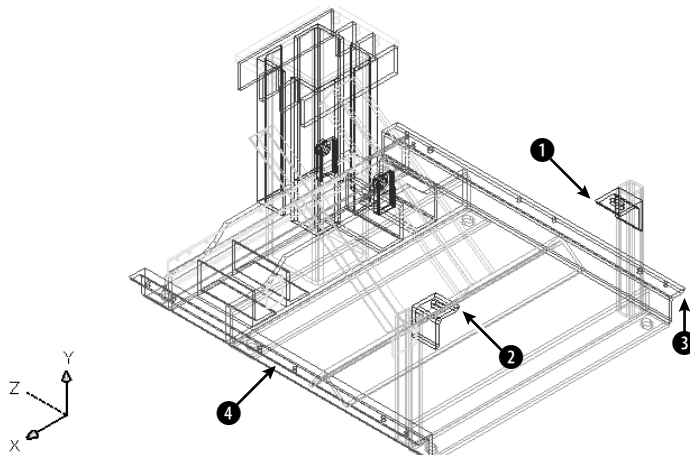

**Figure 28-6:** The base assembly frame.
2. Save the file as `ab28-01.dwg` in your AutoCAD Bible folder. This is a 3D drawing of a base assembly frame for an industrial washer, shown in Figure 28-6.
4. Choose **Insert** ⇨ **Hyperlink**. At the **Select objects:** prompt, pick ① and ② in Figure 28-6. The **Insert Hyperlink** dialog box opens.
6. Repeat the **HYPERLINK** command. This time, attach ③ and ④ in Figure 28-6 to `ab28-a2.dwg` in your AutoCAD Bible folder. Click **OK** to close the dialog box.
7. Ctrl-click the hyperlink at ①. The `ab28-a1.dwg` file should open. Close it. In the same way, test the hyperlink at ②. Do the same with the hyperlinks at ③ and ④.